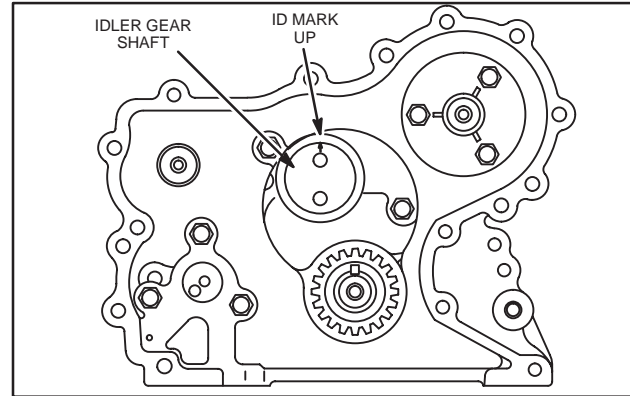

Fig. 14 – Assemble Idler Gear Shaft
5. Assemble idler gear shaft with ID mark up, as shown in Fig. 14.